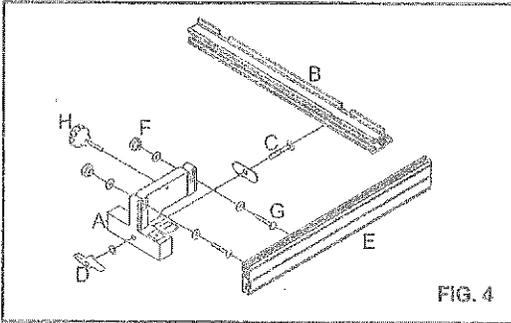

FIG. 4
e. To assemble the rip fence, take the fence carrier(A) and attach it to the guide rail(B) using the M8x50 carriage bolt(C) and the wing nut(D).
Fit the fence(E) to the fence carrier with the two knurled nuts(F) and M6x40 carriage bolts(G) and use the fence adjusting knob(H) for adjustment and to lock in position.(See FIG.4)